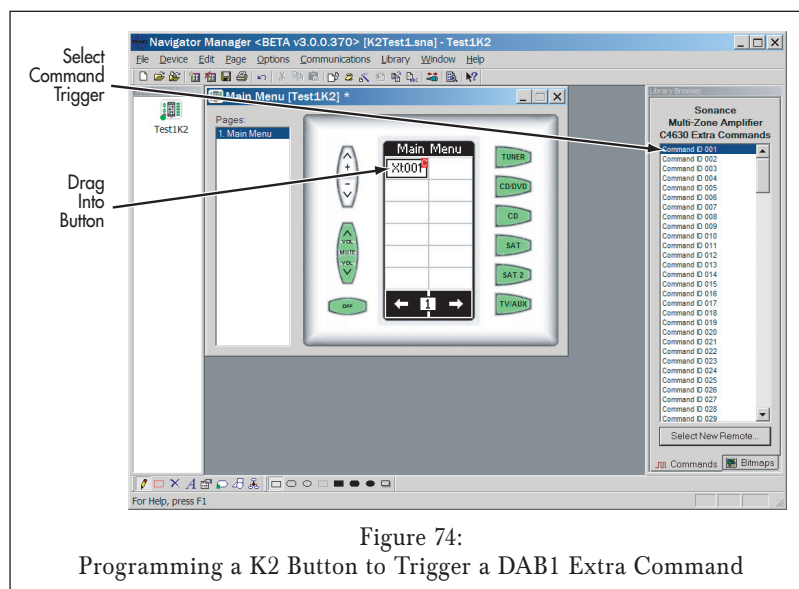

Figure 74:
3. Select the desired Extra Command trigger and drag it to the keypad button you want to trigger it (Figure 74).